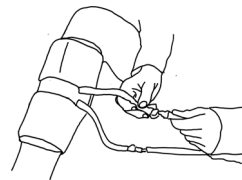

Figure 6: Connect the Control Unit to a Splint.
4. Connect the hose of the Control Unit to the hose of the Splint as shown (Fig. 6).